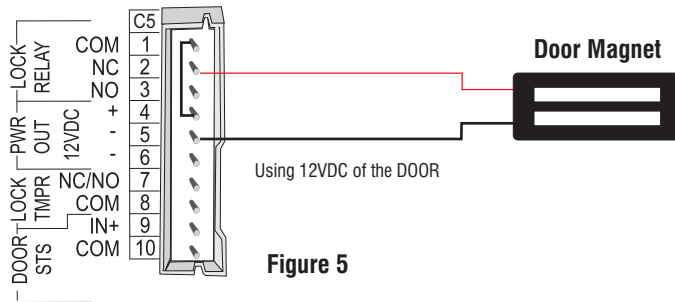

Figure 5
- To use the 12VDC of the Door, short the terminals COM (C5-1) and +ve (C5-4) as shown in figure 5, before connecting the NC/NO and the -ve terminal (C5-5) to the Door lock.